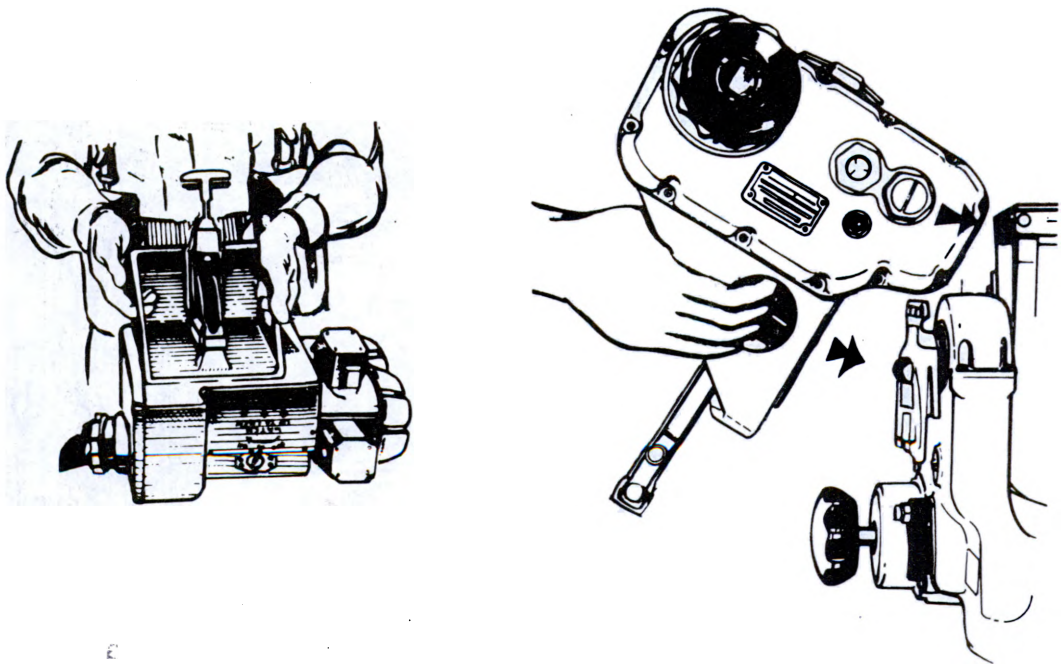

Figure 5. Proper handling of the daysight tracker.
a. Pick the tracker up using the holes in the mounting bracket (fig. 5).